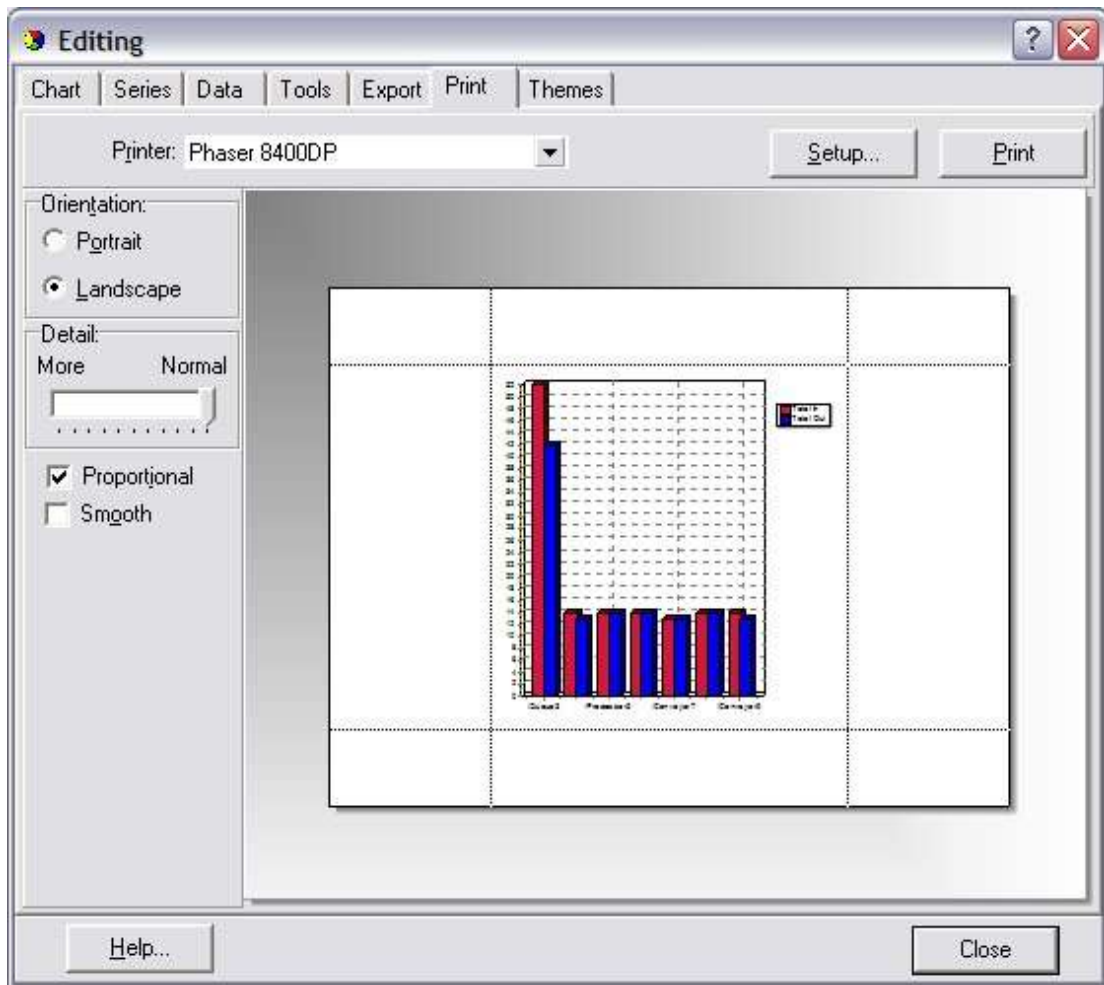

Figure 6 - Printing the current graph
**Printing the Graph:** The user can print the current graph by selecting the Print main tab. See Figure 6.